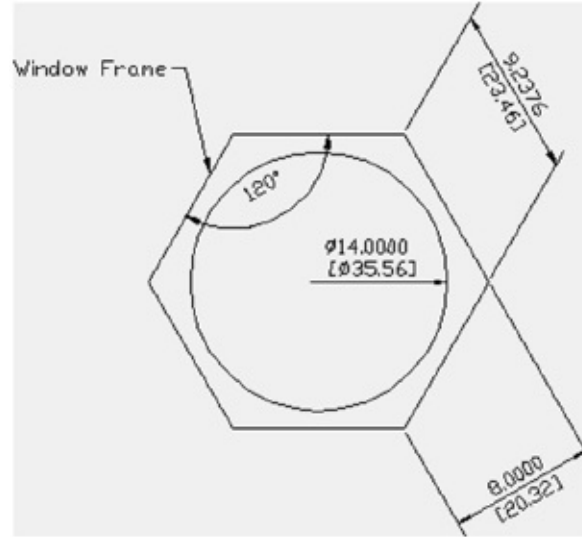

FIGURE 11.31 The extension lines at 60°
3. At the Enter obliquing angle (Press ENTER for none) : prompt, enter **60** ↵ for 60°. The dimension will skew so that the extension lines are at 60° (see Figure 11.31).